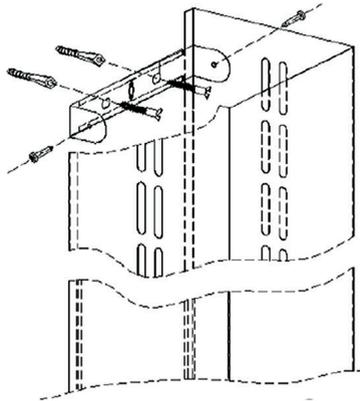

Fig. 4
7. Fix the appliance to the wall using the wall plugs and screws (Fig. 4).